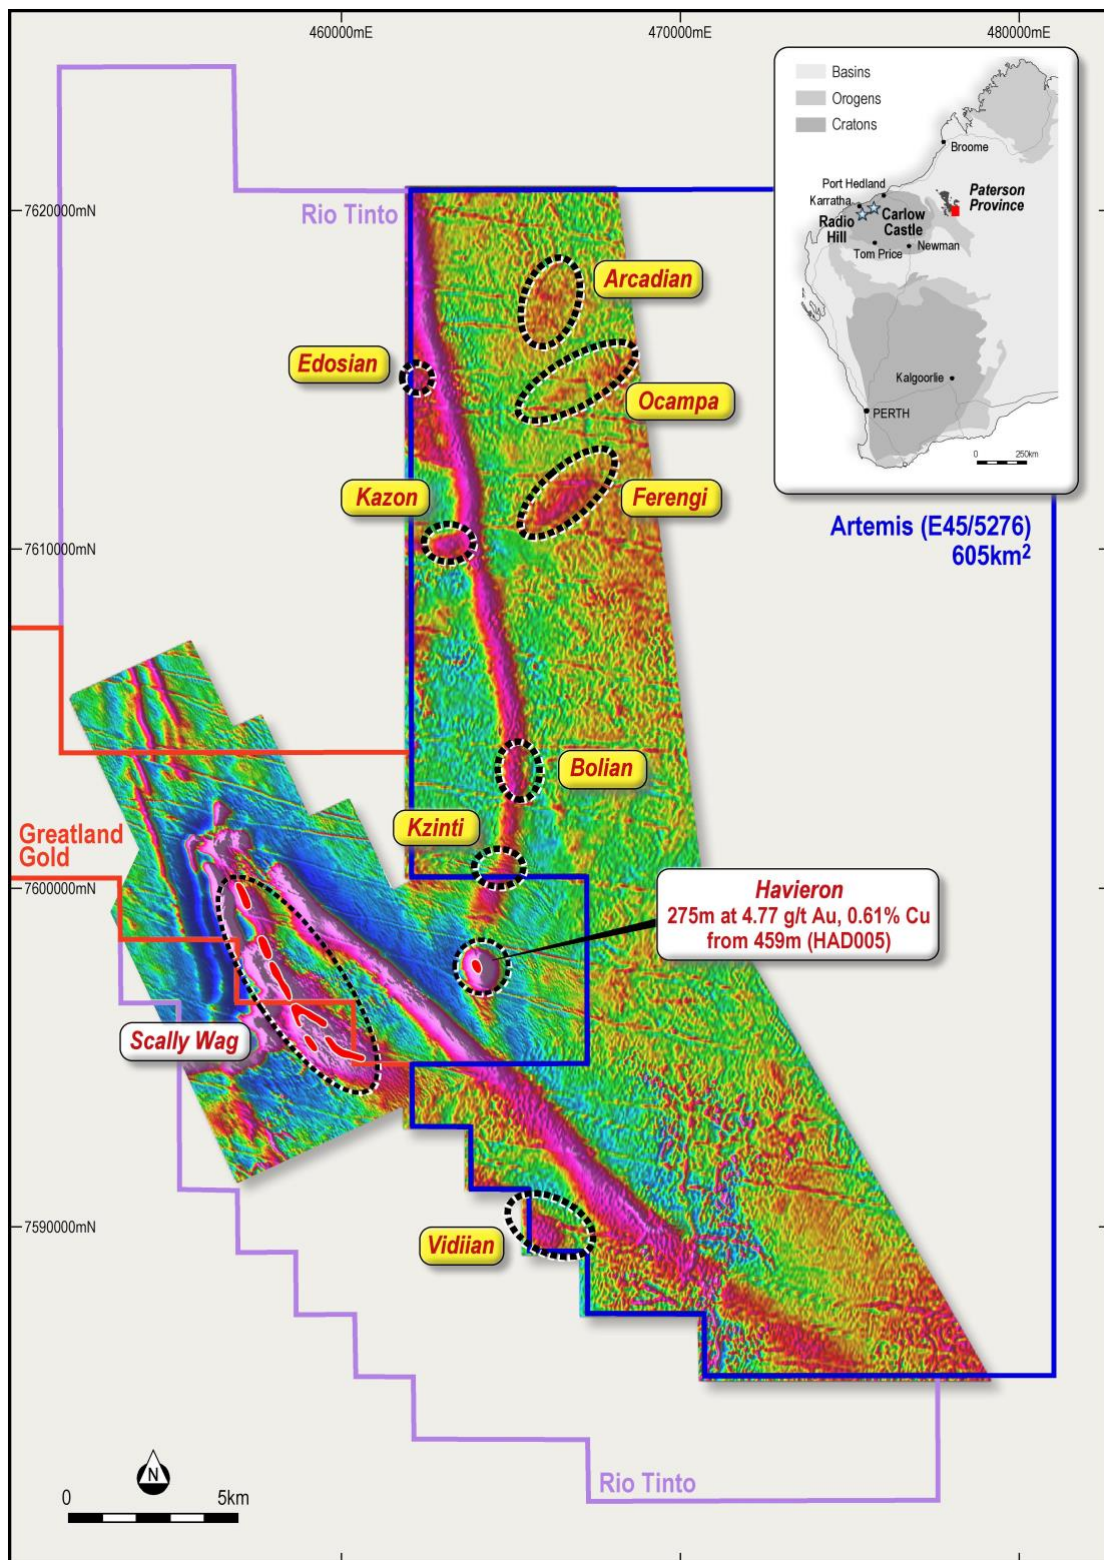

Figure 1: Artemis Aeromagnetic data, reduced to pole - 1st vertical derivative merged with Greatland Gold Plc magnetic data.
- Artemis' 100% owned Armada Prospect covers an area of ~600km² in the highly prospective Paterson Province of Western Australia, surrounding Greatland Gold Plc's Havieron Project to the north, south and east (Figure 1).
- Recently completed gravity survey has identified three (3) new gravity targets - Bandi, Orion and Romulan ~ 4Km northeast of Havieron.
- A total of eleven (11) targets have now been identified by Artemis to date based on gravity and magnetic data acquired.
The recent gravity and airborne magnetic surveying have identified eleven (11) new targets (8 magnetic and 3 gravity), within a 22 km radius of the Havieron Project. Artemis has now ranked these targets on magnetic signature, density contrasts and structural character/complexity (**Figure 1 and 2**).
Initial detailed aeromagnetic survey results and high-level interpretation defined 8 primary targets (as announced on the 17th January 2019), with four (4) of these were rated a priority 1 ranking (**Figure 1**):